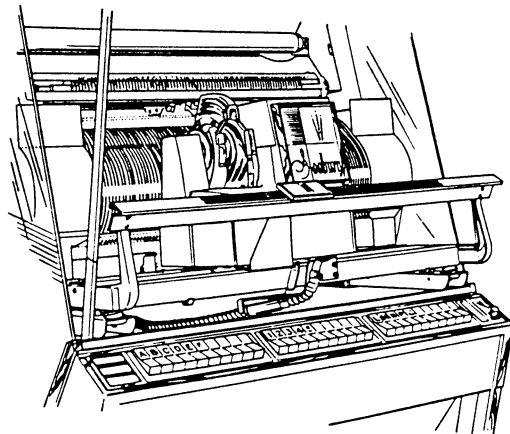

Figure 19.
2. Unlock mechanism frame by prying out and removing locking pins *Figure 19*.